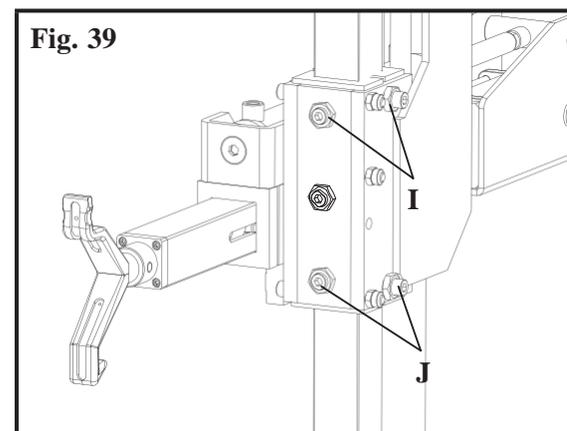

Fig. 39
- Unloose the lock nuts (I-fig.39).
- Adjust the screws (J-fig.39) properly by so as to make the arm movement smoothly.
- Secure the lock nuts (I-fig.39) after adjustment.